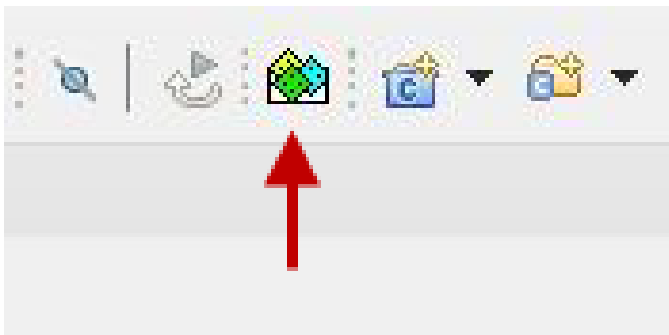

Figure 3. Opening the CMSIS-Pack Manager Perspective
3. On the top row of the Workbench perspective, click the "Make the CMSIS Packs manager perspective visible" icon. (See the "Opening the CMSIS-Pack Manager Perspective" figure (Figure 3).)